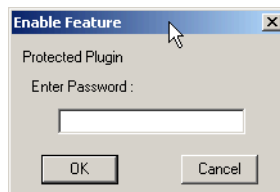

Figure 4 Enable Feature password dialog
3. In the Enable Feature dialog (Figure 4), enter your hp6col plugin password and click OK.